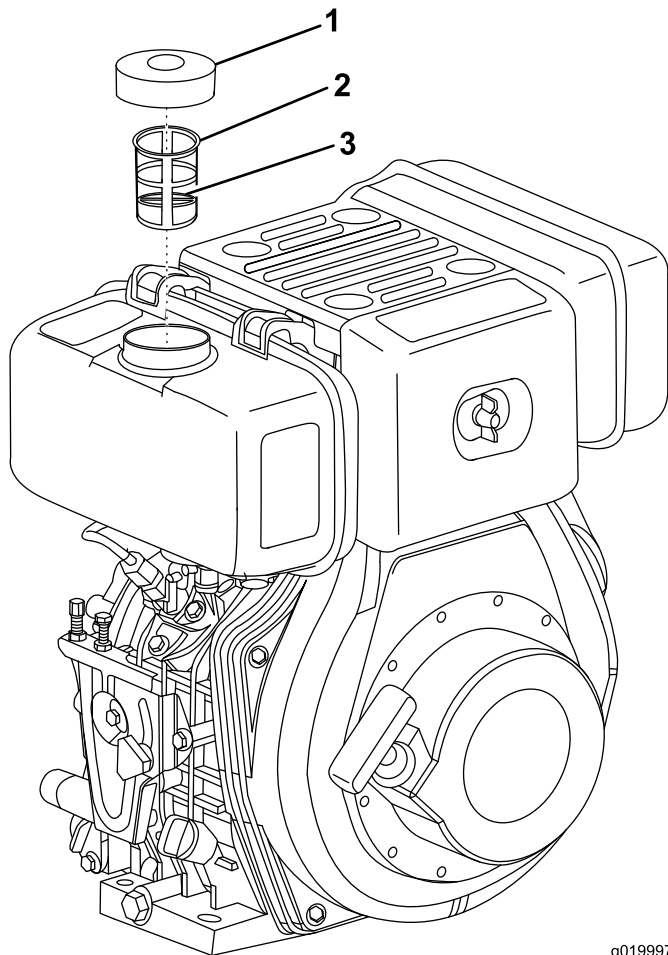

Figure 21
2. Clean around the fuel cap and remove it (Figure 21).
4. Securely install the fuel cap (Figure 21).